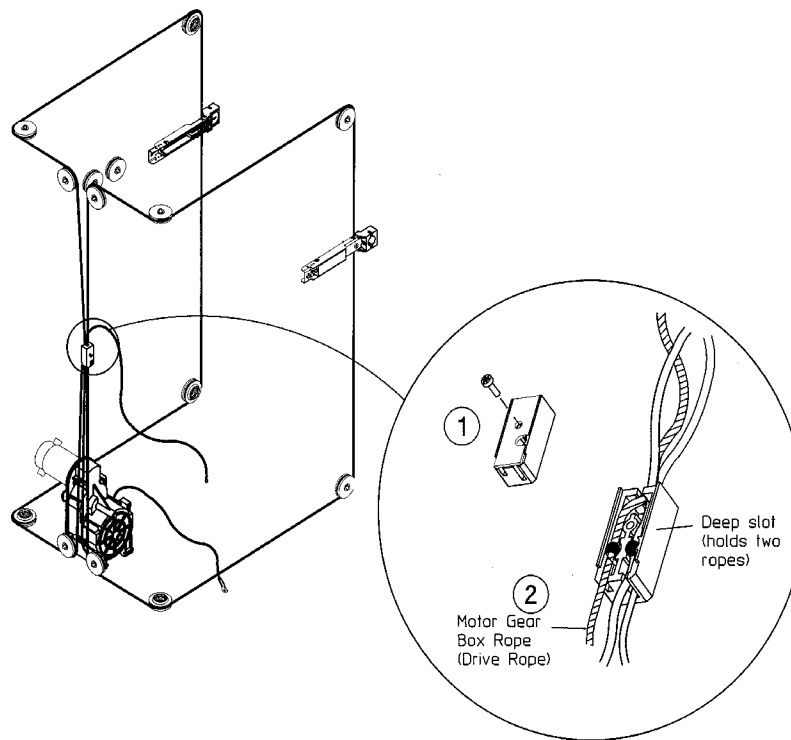

Figure 40: Disconnecting the Rope Coupler
8. Remove the drive rope from the coupler (see #2 on Figure 40)